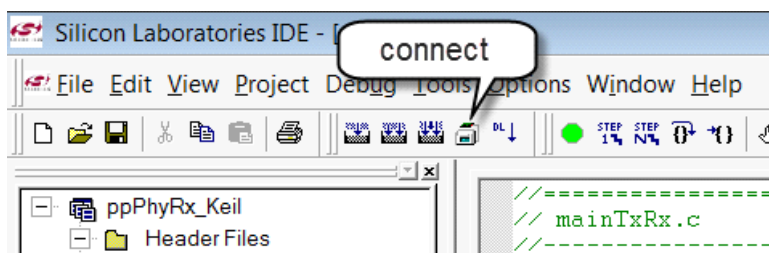

Figure 13. Connect IDE to Programming Adapter and Node Board
4. Connect the IDE to the programming adapter and Node Board as shown in Figure 13.